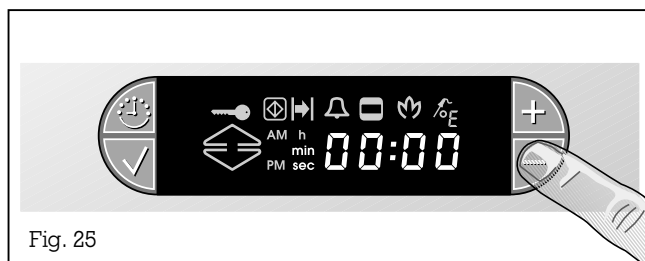

Fig. 25
- Press the - key while the appliance is on (Fig. 25).